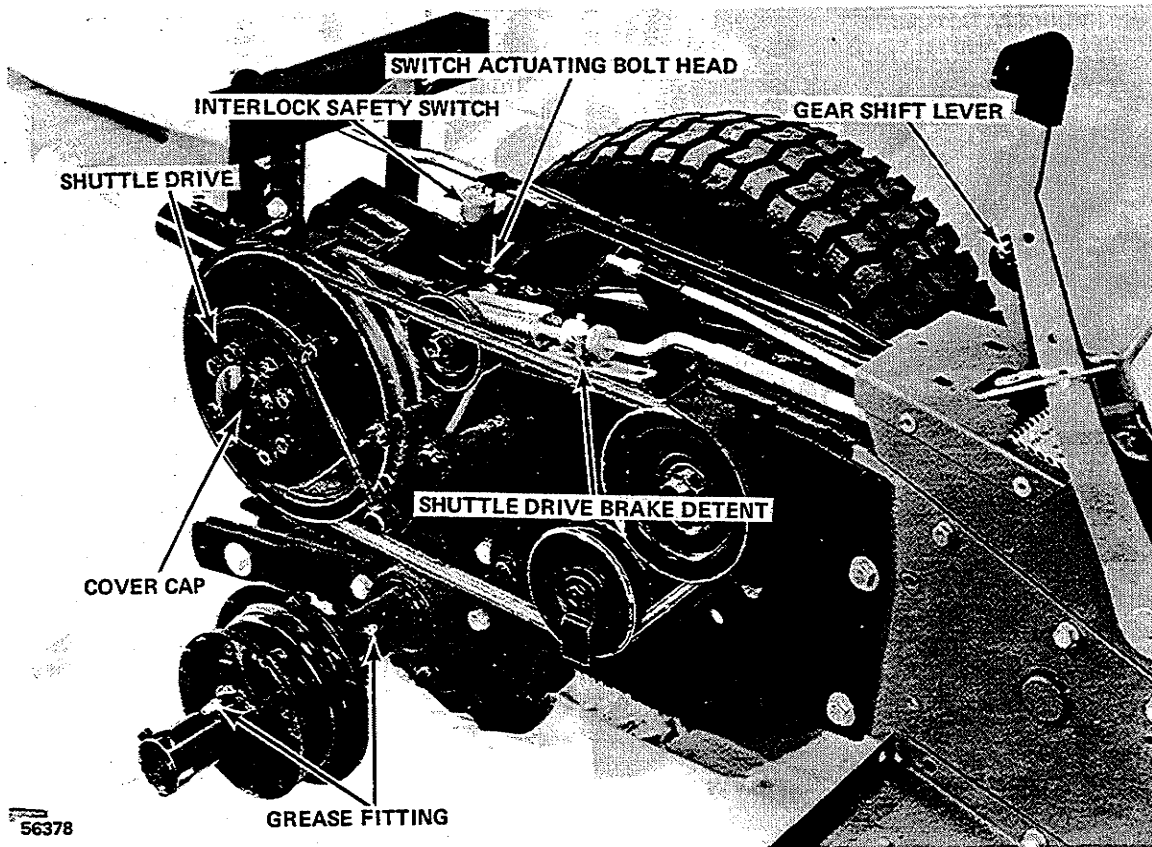

FIGURE 15
2. Every 25 hours lubricate two grease fittings on right hand rear axle (See Figure 15), with good grade automotive type pressure gun grease.
3. At same time apply a small amount of grease to the pin and groove of the shuttle drive brake detent and to the head of the bolt that actuates the interlock safety switch when gear shift lever is in neutral (Figure 15).
4. Every 100 hours or once a year block up rear of tractor and remove right hand rear wheel. With a screw driver remove the cover cap from the shuttle drive (Figure 15). Force pressure gun grease into the space around the differential and pinion gears. Replace cover cap.